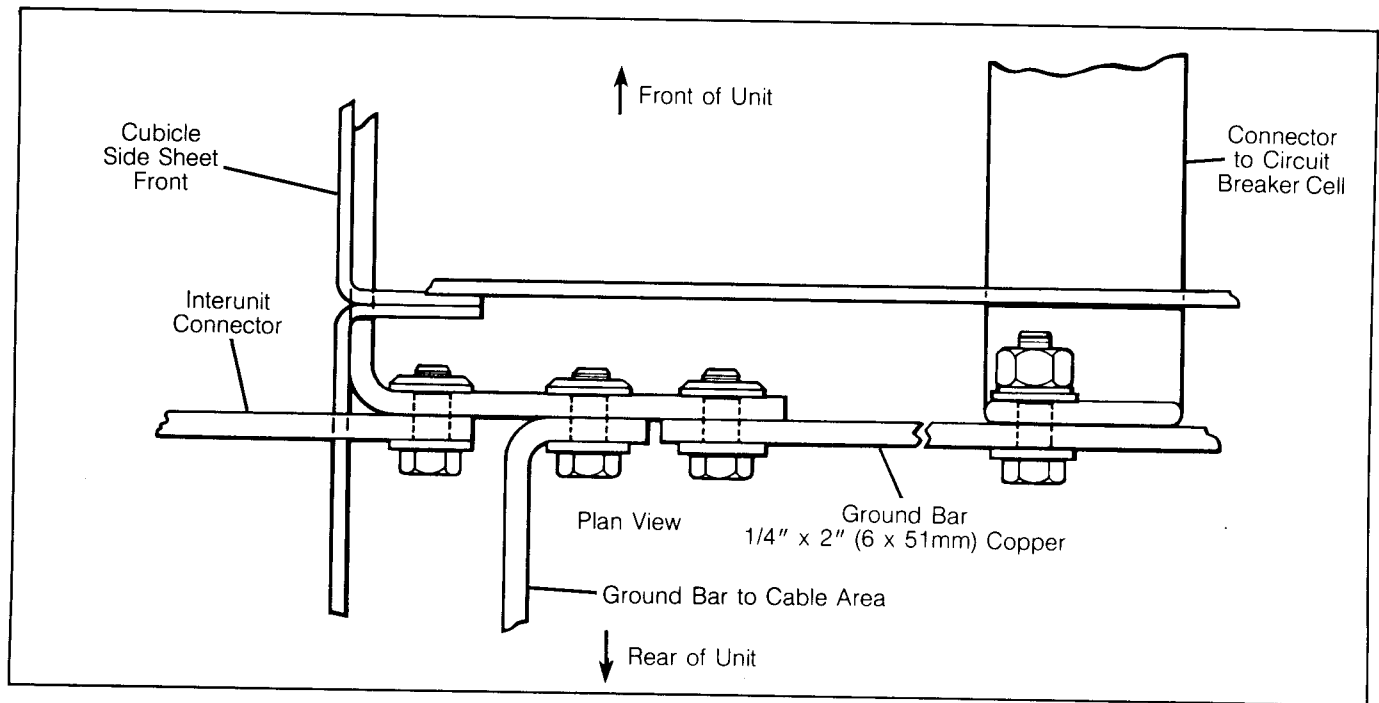

Figure 22. Ground Bus Connection
10. Connect ground bus. See **Figure 22**. Insert bar in side wall opening to overlap the ground bus in adjacent cubicles.
A common ground bus is incorporated in all units for properly grounding the equipment after installation. (**Figure 22**).